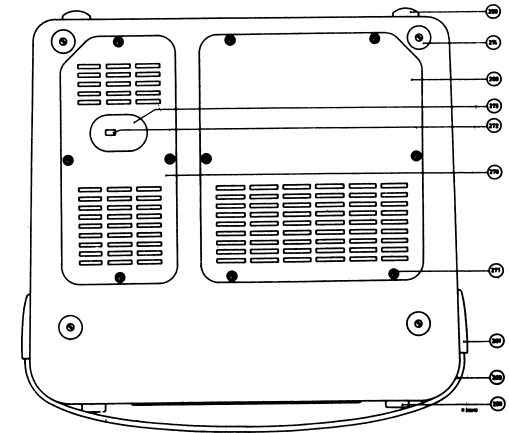
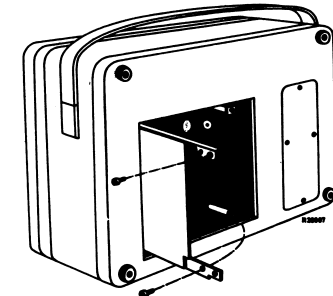

Fig 2
Fig 3
- For the replacement or the measuring of a great number of electrical parts it is not necessary to remove the chassis from the casing. By removing the large bottom plate 269 (see figure 2) the print plate can be swung outwards (see figure 3) after removing the two screws which affix the print plate to the chassis so that most parts are easily accessible. After replacing or measuring, the print plate should again be affixed to the chassis. The recording/playback switch SK1 should be adjusted, however, according to PART II-4 (see page 22).